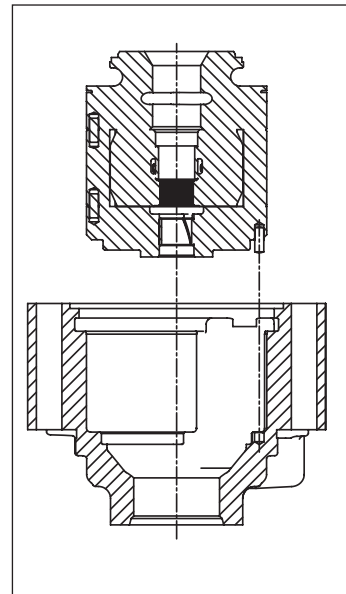

Figure 45
**! WARNING:** If you want to reassemble a new cartridge (Fig. 45).
6. Fit the cartridge into the housing (Fig. 45).